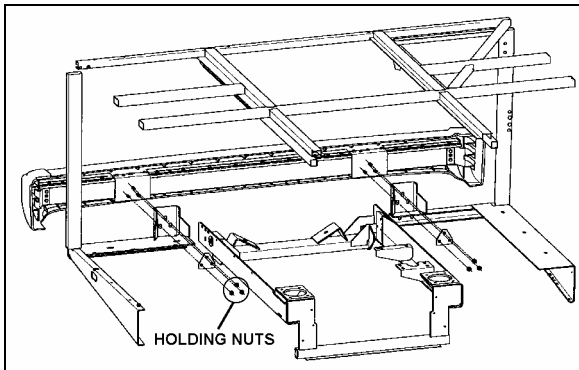

FIGURE 12: REAR BUMPER ASSEMBLY
1. Remove 6 nuts (3 on each side) holding bumper assembly to vehicle and remove bumper (Fig. 12).